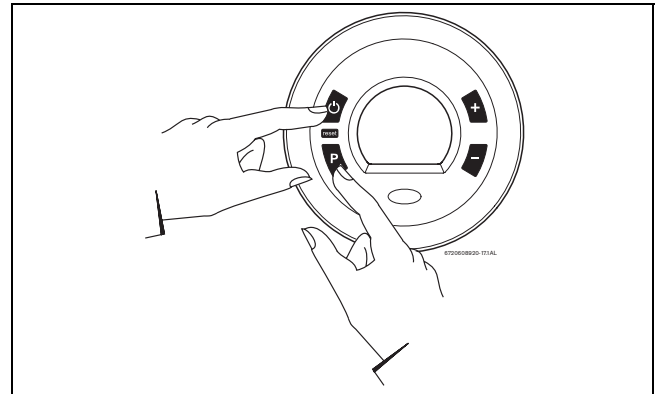

Fig. 55 Gas setup mode
- ▶ Press and hold "Program" button and press ON/OFF button to turn appliance ON (→ Fig. 55).